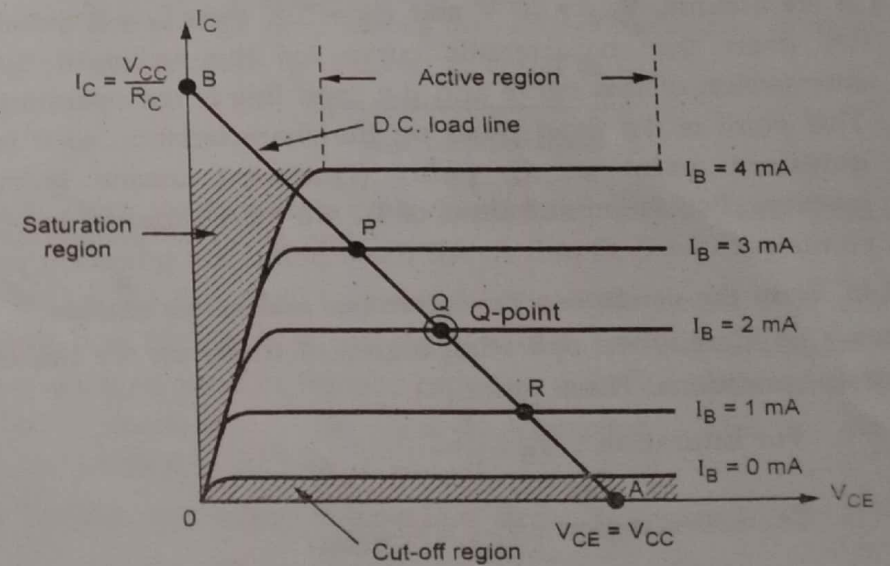

Fig. Q.43.2 Common emitter output characteristics with d.c. load
• The Fig. Q.43.2 shows the output characteristics of a common emitter configuration with points A and B and line drawn between them. The line drawn between points A and B is called d.c. load line.